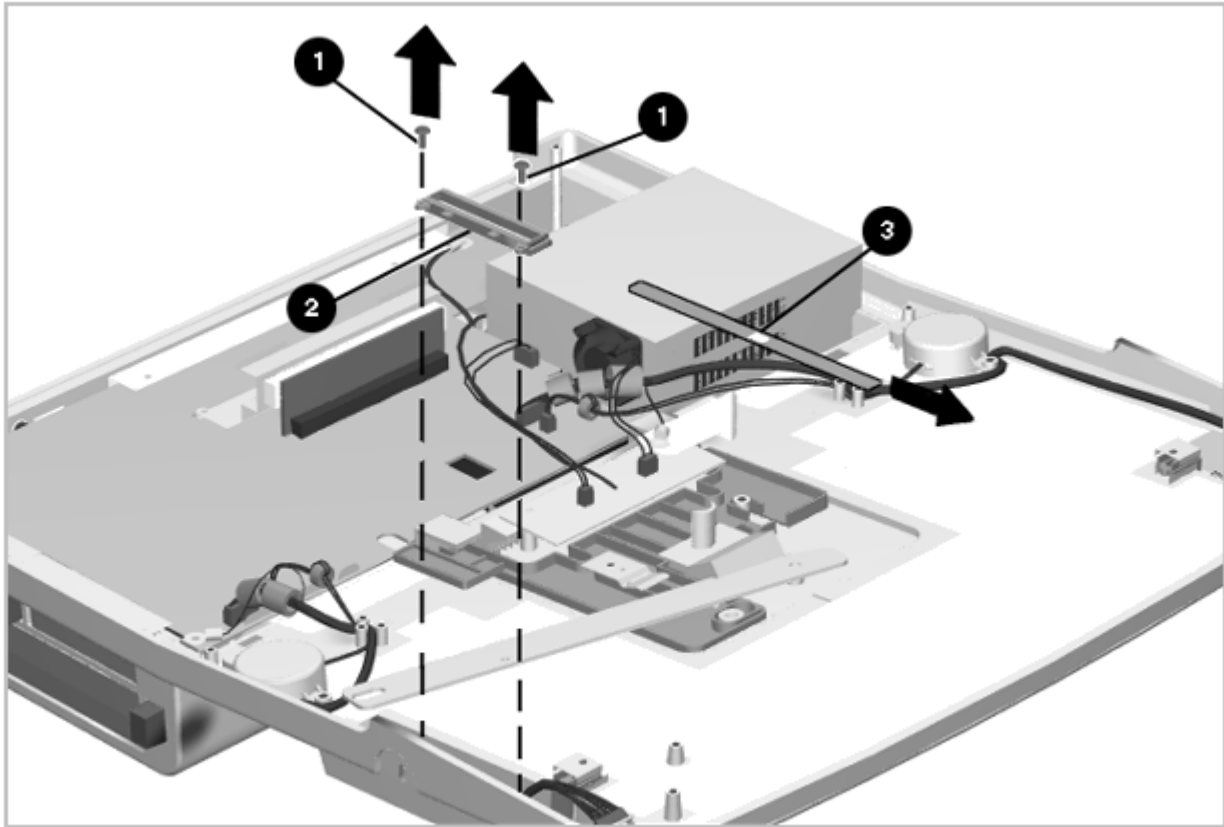

Figure 7-40. Removing the Docking Lever Cover
5. Remove the screws [1] and lift out the docking lever cover [2] (Figure 7-40).
6. Remove the docking lever cover insert [3] as shown in Figure 7-40.